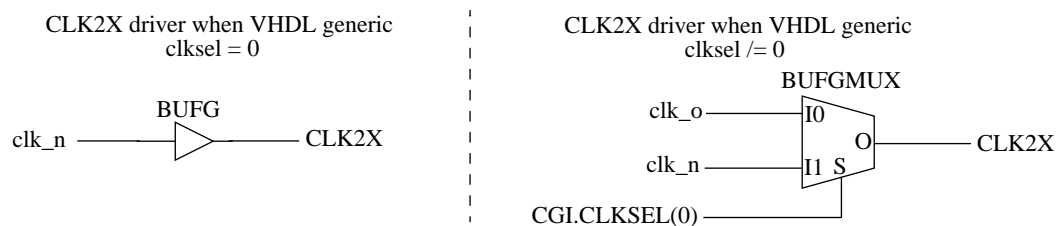
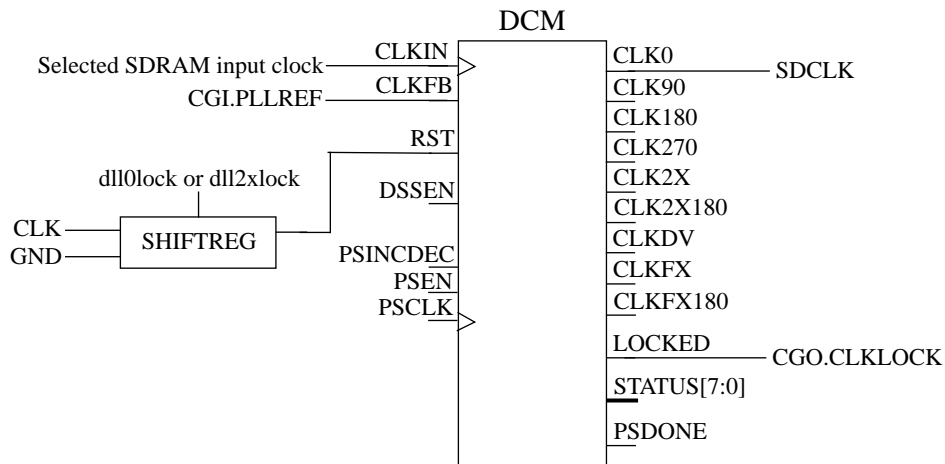

Figure 48. Spartan 3/e selection of CLK2X clock when VHDL generic *clk2xen* is non-zero
Figure 51. Spartan 3/e generation of SDRAM clock
shift register connected to the CLK2X DCM's RST input are set to '1'. When the dll0lock signal is asserted it will take four main clock cycles until the RST input is deasserted. Depending on the value of the *clkssel* VHDL generic the core's CLK2X output is either driven by a BUFG or a BUFGMUX. Figure 48 shows the two alternatives and how the CGI.CLKSEL(0) input is used to selected between the CLK0 and CLK2X output of the CLK2X DCM.
If the SDRAM clock is enabled, via the *sdramen* VHDL generic, and the clock generator is configured to use clock feedback the DCM shown in figure 51 is instantiated. This DCM has the same attributes as the CLK2X DCM. The input to the SDRAM DCM input clock is determined via the *clk2xen* VHDL generic. If the VHDL generic is set to 0 the input is the main CLK, if the generic is set to 1 the input is the *clk\_p* out of the CLK2X DCM shown in figure 48. If the *clk2xen* VHDL generic is set to 2 the clock input to the SDRAM DCM depends on the *clkssel* VHDL generic. The input in this last case is the CLK2X output shown in figure 50.
If the SDRAM clock is disabled (*sdramen* VHDL generic set to 0) or the core has been configured not to use clock feedback (*noclockfb* VHDL generic set to 1) the driver of the core's SDCLK output is determined by the value of the *clk2xen* VHDL generic. If the *clk2xen* VHDL generic is set to 2, the SDRAM clock output is the same as the CLK2X output shown in figure 48, in other words it also depends on the *clkssel* VHDL generic. If the *clk2xen* VHDL generic has any other value the SDCLK output is the same as the core's CLK output.